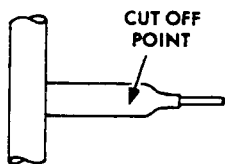

Fig. 2
- B. If existing control has $\frac{1}{4}$ " flare extension silver soldered into system, cut off from system as far as possible from point of connection and use a $\frac{1}{4}$ " sweat coupling as shown (Figs. 2 and 3). Clean and solder as shown.